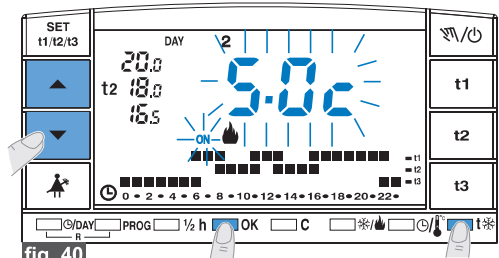

fig. 40
To program the function, press and hold t_{*} (fig.40) until the display shows the caption **ON 5.0c** (function on) or **OFF 5.0c** (function off).
- Keep t_{*} pressed until **5.0c** blinks on the display (fig.40).